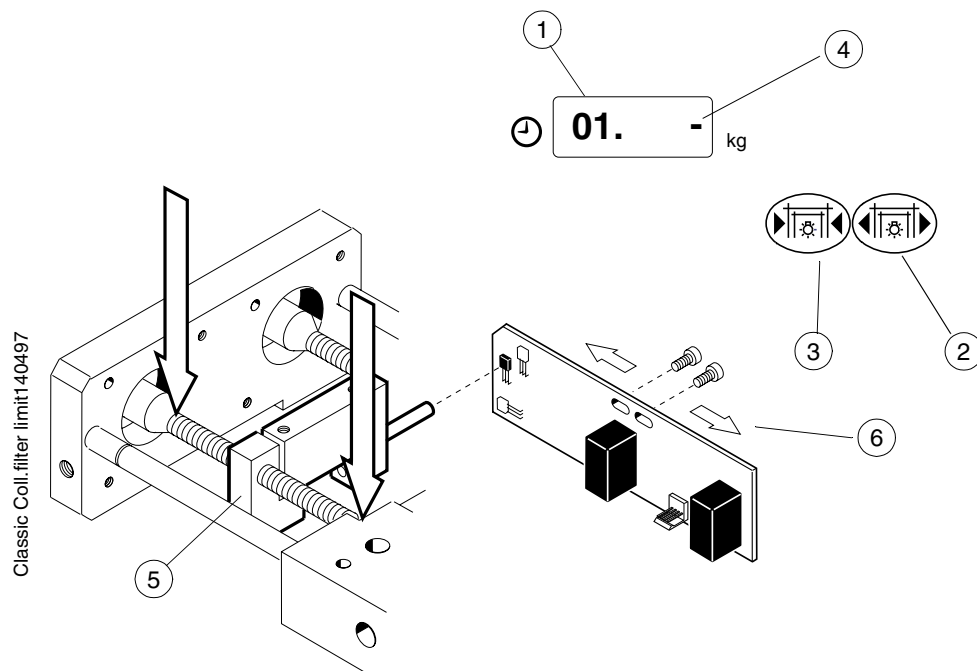

Figure F.19
- a) Enter the service mode and select the display of internal signals mode 01 (Fig. F.19, 1).
- b) Pressing the field/light keys (Fig. F.19, 2,3) drive the filter worm-screw nut (Fig. F.19, 5) to hall-sensor and check that the indicator LED on the COLLIMATOR PCB lights as well as the right middle signal (Fig. F.19, 4) on the display.
The filter worm-screw nut may not hit the collimator frame or stick to the beginning of the worm-screw (arrows on Fig. F.19). To prevent this adjust the position of the COLLIMATOR PCB (Fig. F.19, 6). The final adjustment of the filter position is performed according to instructions described in chapter F, section 4.3. Especially the spot collimator adjustment must be checked.